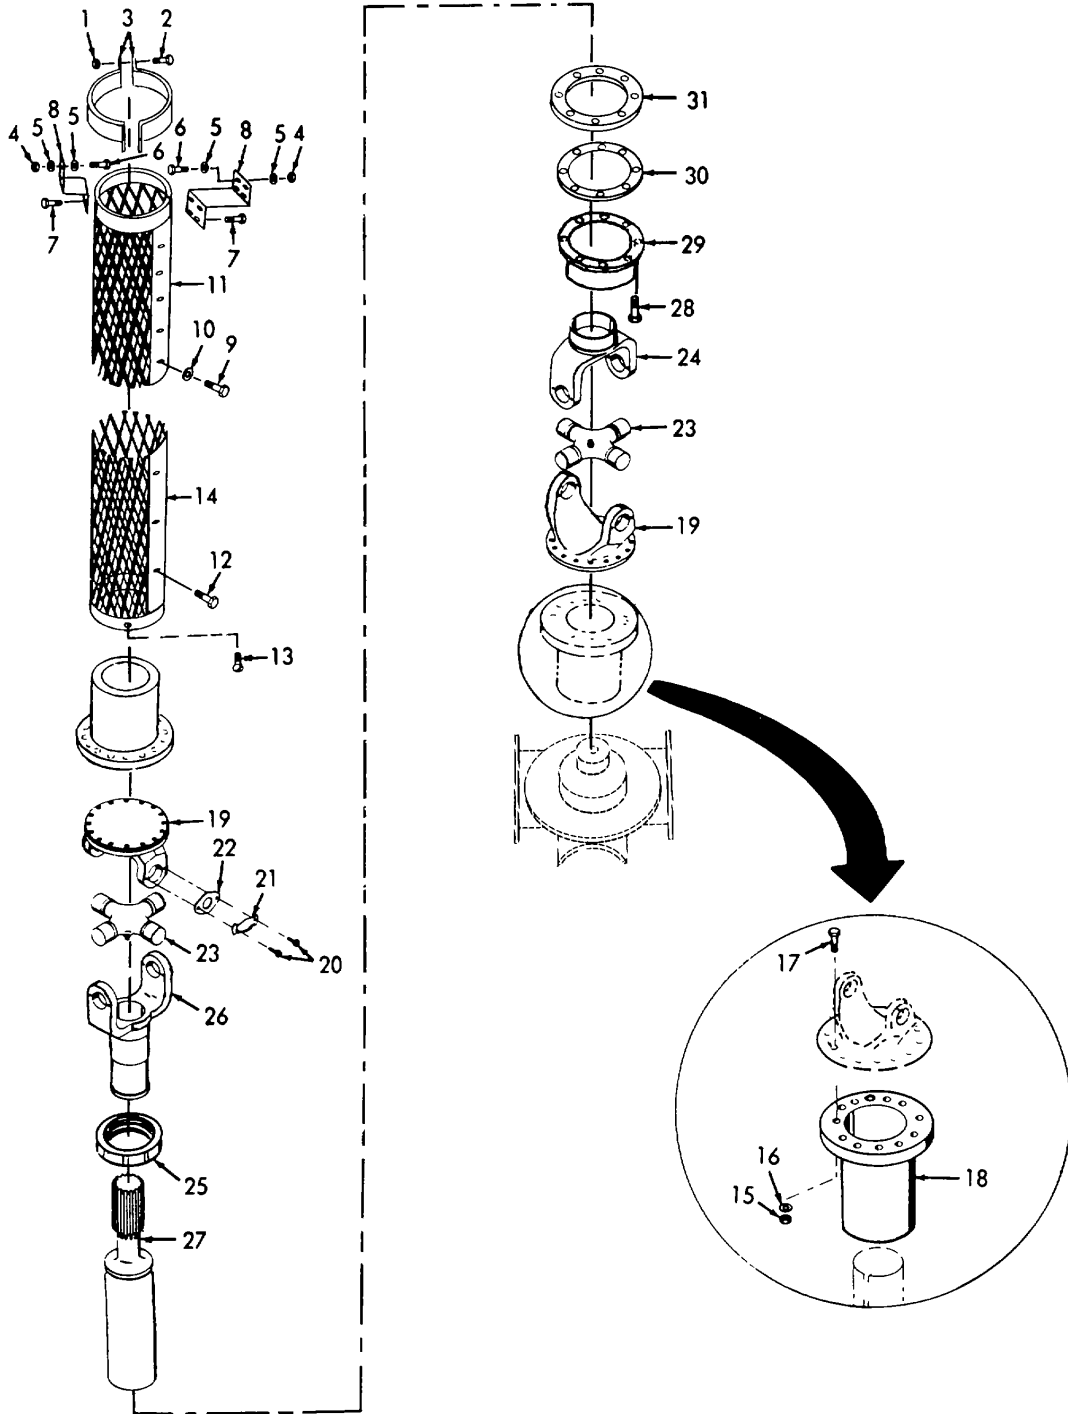

Figure 3-110. Shaft Assembly, Removal, Disassembly, Reassembly, and Installation.
**3-53. SHAFT ASSEMBLY - Continued.**a. Removal. (Refer to figure 3-110).
- (1) Remove four nuts (1), four screws (2), and clamp (3).
- (2) Remove eight nuts (4), sixteen flat washers (5), and eight screws (6). Remove eight screws (7) and two brackets (8).
- (3) Remove five screws (9), five flat washers (10), and guard (11).
- (4) Remove three screws (12), three thumbscrews (13), and guard (14).
- (5) Remove twenty-four nuts (15), twenty-four washers (16), and twenty-four bolts (17) securing upper and lower companion flanges (18) to flange yokes (19).
- (6) Refer to paragraph 3-52 and remove speed reducer.
- (7) Remove eight screws (20) securing four dust caps (21) and four lock straps (22) to the upper flange yoke and slip yoke.
- (8) Remove the dust caps and lock straps from lower flange yoke and tube yoke in the same manner.
- (9) Remove universal joints (23).
- (10) Separate tube yoke (24) and pull remaining shaft components up through stuffing box.
- (1) Refer to figure 3-110 and loosen dust cap (25) and separate slip yoke (26) from slip tube (27).
- (2) Remove eight bolts (28) and remove stuffing box (29) and gasket (30) from insert plate (31).
- (1) Refer to figure 3-110 and assemble stuffing box (29) and gasket (30) to insert plate (31) using eight bolts (28).
- (2) Attach slip yoke (26) to slip tube (27) and tighten dust cap (25).
- (1) Refer to figure 3-110 and slide slip tube down through stuffing box and install tube yoke (24).
- (2) Assemble universal joints (23), lock straps (22), and dust caps (21). Install eight screws (20) in upper yokes and eight screws in lower yokes.
- (3) Refer to paragraph 3-52 and install speed reducer.
- (4) Install twenty-four bolts (17), twenty-four washers (16), and twenty-four nuts (15) securing upper and lower companion flanges (18) to flange yokes (19).
- (5) Install guard (14) and secure with three thumbscrews (13) and three screws (12).
- (6) Install guard (11) and secure with five flat washers (10) and five screws (9).
- (7) Install two brackets (8) and secure with eight screws (7), eight screws (6), sixteen flat washers (5), and eight nuts (4).
- (8) Install clamp (3) and secure with four screws (2) and four nuts (1).